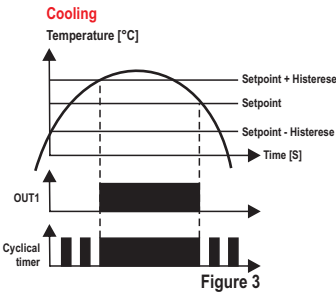

Figure 3
- **Cyclical timer output is on whenever stage 1 output is on (F22=4):** in this operating mode timer cycles according to the times configured in F20 ( $\overline{[C D n]}$ ) and F21 ( $\overline{[C D F F]}$ ), and **stage 3** stops cycling and keeps the output switched on, whenever **stage 1** output switches on, as shown in Figure 3.